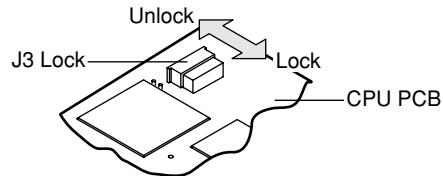

Figure 5-3: Unlocking CPU PCB Connector J3
5. Unlock connector J3 on the CPU PCB as shown in Figure 5-3 and pull the front panel keypad flex circuit out of J3.
Note: When reassembling the NPB-40, be sure to lock J3 after you insert the front panel keypad flex circuit. See Figure 5-3.